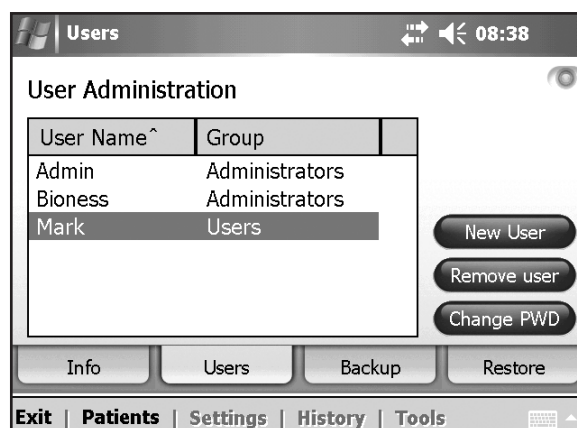

Figure 7-39: User Administration window.
1. Press the **Users** tab to view the User Administration window. See Figure 7-39.